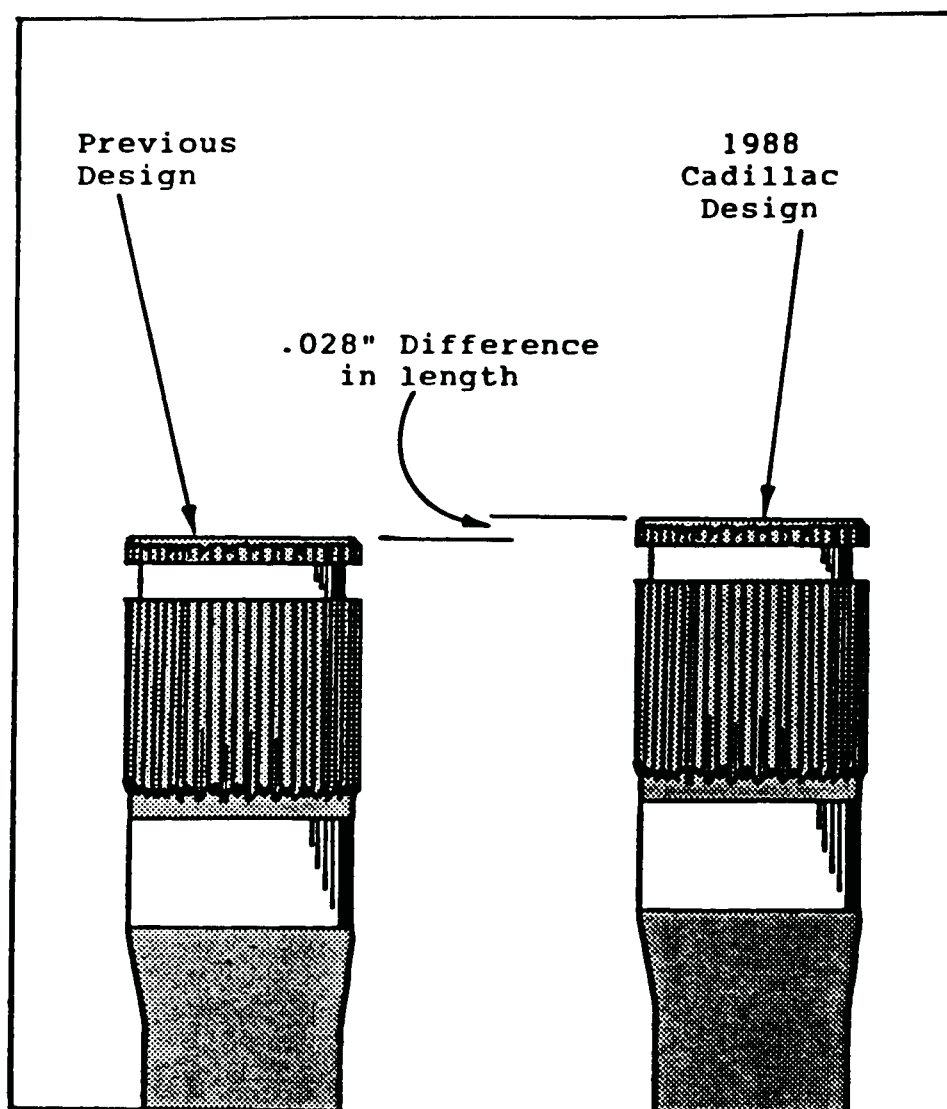

Figure 80
- (7) Output Shaft - Longer (.028"), so that it will extend through the thicker side gears, to get "C" clip installed. The longer output shaft can be identified by green paint on the end of the shaft opposite the "C" clip end (See Figure 80).